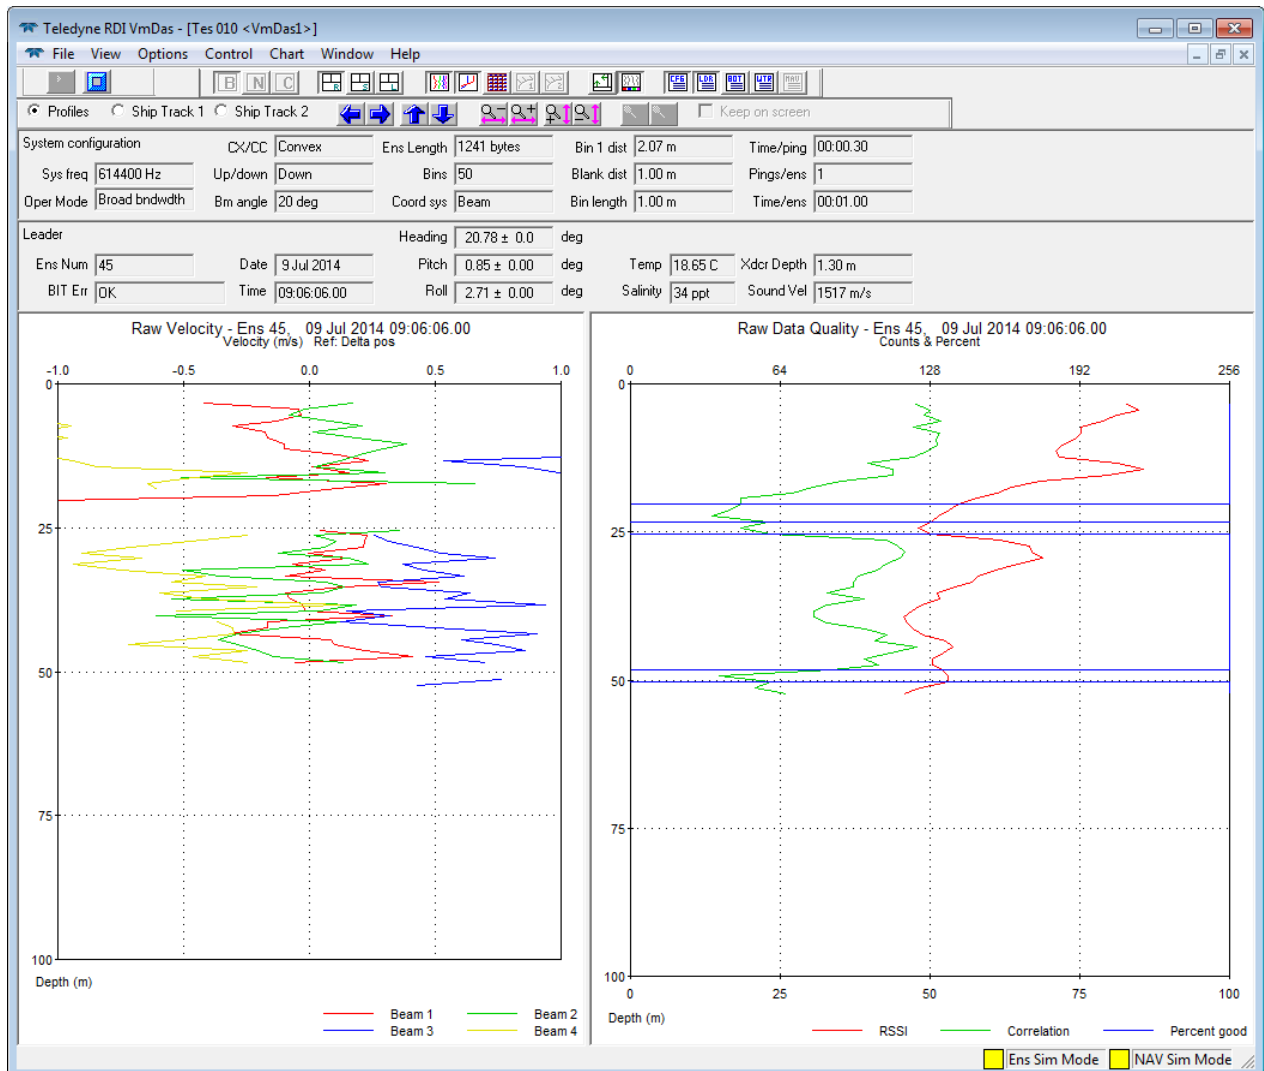

Figure 6: VmDas screen layout during data collection (raw display mode)
4. After checking the settings carefully, **start the data acquisition**. Select the menu **File** → **Collect Data** or press the  button at the upper left of the main window. The data recording starts immediately and the screen looks about the same as the screenshot in Figure 6.